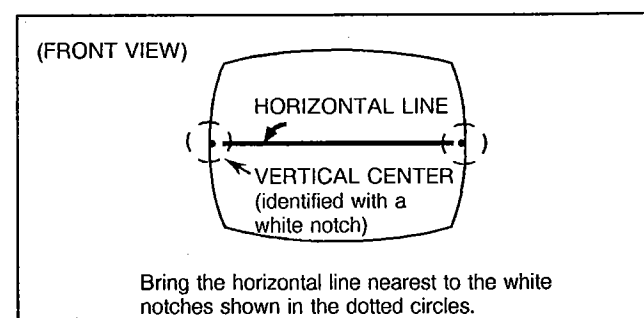

Fig. B-4
6. Check the vertical center position by displaying a horizontal line. (Select the CUT-OFF SERVICE SWITCH from N to S and a HORIZONTAL LINE will appear.) Unless correct, bring it to the nearest center by rotating the two tabs, kept at an angle, together in either direction. (Fig. B-4)